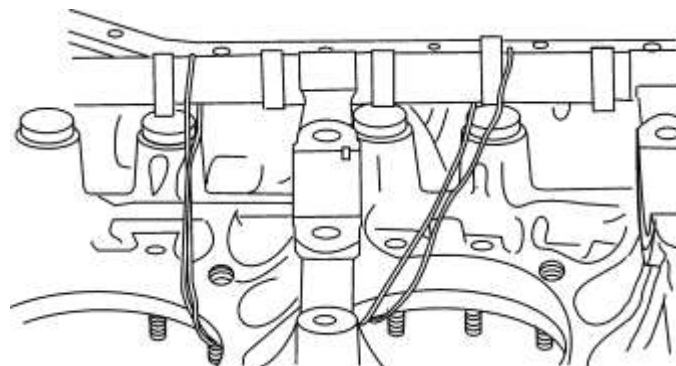

Figure 88
- (6) Install the camshaft in the left crankcase half.
- (7) Tie a loop of soft wire around the camshaft and left crankcase half (as shown in Figure 88) to hold the camshaft securely in place.